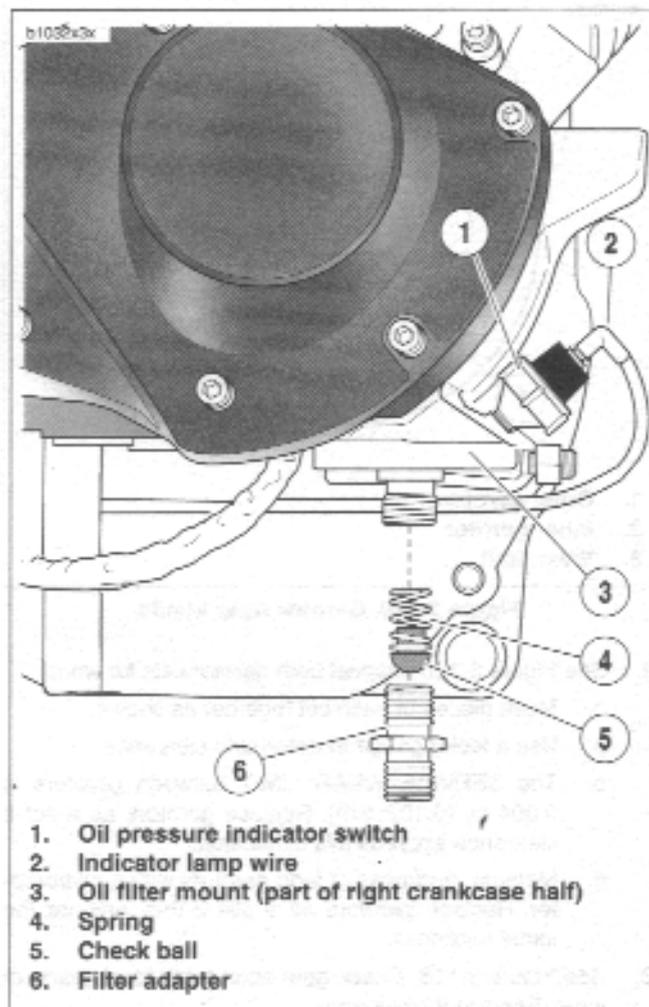

Figure 3-122. Oil Filter Mount Assembly
See Figure 3-122. Oil is pressure-fed from the oil pump to the oil cooler via an external steel line. From the oil cooler, oil flows to the oil filter mount. Oil travels through the filter mount into the filter through the outer filter holes.
3. See Figure 3-122. Remove filter adapter (6) from filter mount (3). Remove check ball (5) and spring (4).
4. Detach indicator lamp wire (2) from oil pressure indicator switch (1). Remove switch using OIL PRESSURE SENDING UNIT WRENCH (Part No. HD-41675).
1. See Figure 3-122. Install oil pressure indicator switch (1) using OIL PRESSURE SENDING UNIT WRENCH (Part No. HD-41675). Tighten to 50-70 in-lbs (6-8 Nm).
2. Attach indicator lamp wire (2).